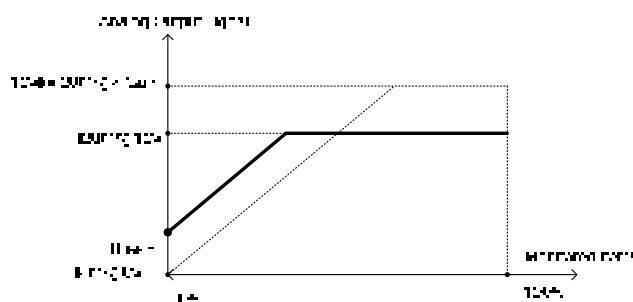

Figure 4.3.51 Analog output level adjustment
(1) Analog output adjustment (04-12, 04-13) •
- Please refer fig 4.3.51 for analog output level adjustment.